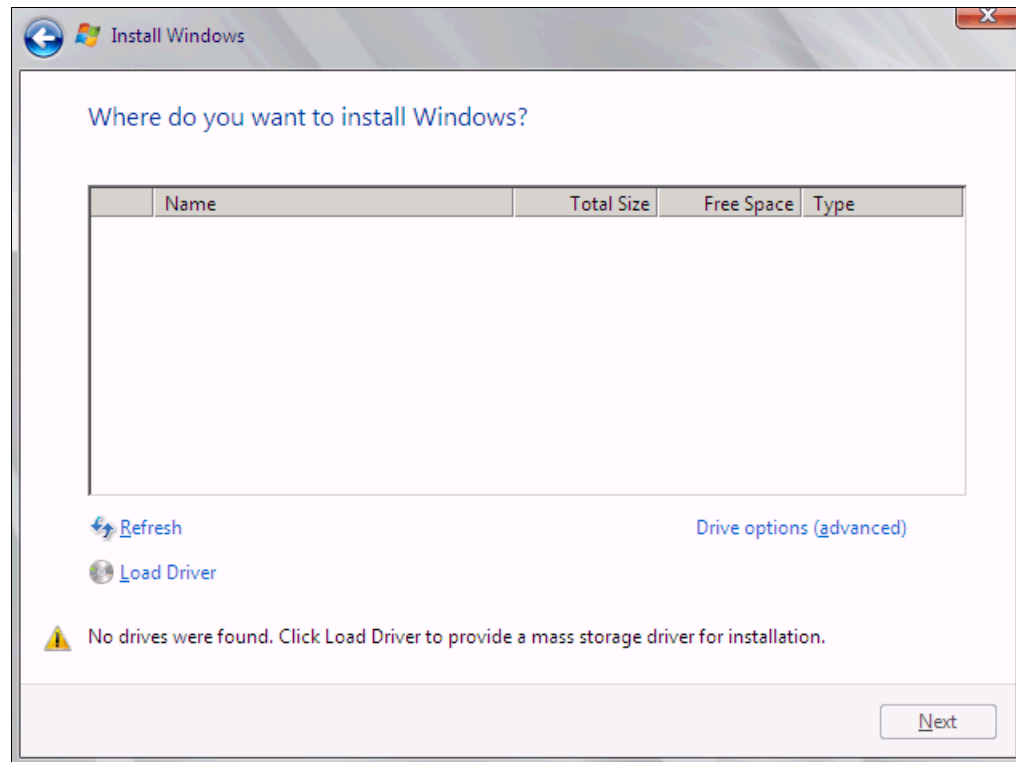

Figure 9-96 No disk shown
- 12.If no disks are displayed (Figure 9-96), insert the media that contains the drivers. The media can be in the form of a USB key, CD, or DVD, on a remotely mounted ISO. Then click **Load Driver** to load a driver for your storage device (Emulex card).